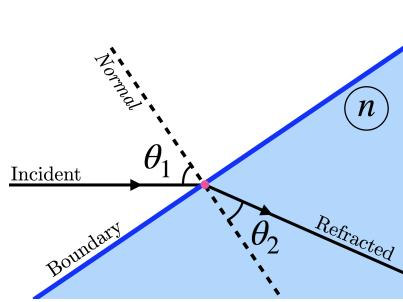

Figure 13
7. This question is about linearizing data. In this experiment, you will direct a laser beam into a lens. You will control the incident angle  $\theta_1$  and measure the refracted angle,  $\theta_2$ . For this question, the laser refracts from air into the lens as shown in Figure 13. The IOR of air is  $n_{air} \approx 1$ . The IOR of the lens is labeled as  $n$ .